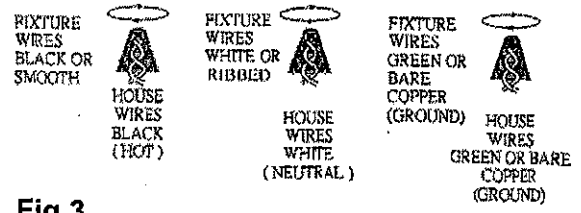

Fig.3
CONNECTING THE WIRE (See fig.3)
1. At this point, connect the electrical wires as shown in Fig. 3, making sure that all wire connectors are secured. If your outlet box has a ground wire (green or bare copper), connect the fixture's ground wire to it. Otherwise, connect the fixture's ground wire directly to the cross bar using the green screw provided.
2. Tuck the wire connectors neatly into the ceiling outlet box and raise the canopy (U) and collar ring (Y). Then thread collar ring (Y) onto collar loop (T) protruding through canopy.